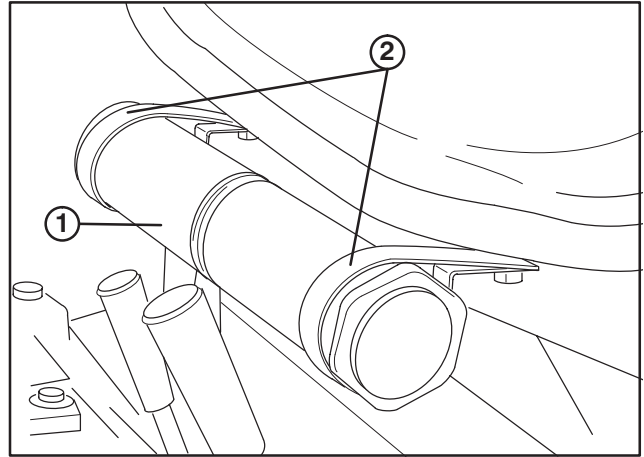

Figure 8
- Remove manual tube and R-clamps secured to seat plate. Retain (2) mounting capscrews and flatwashers.
- Loosely mount R-clamps to outer holes in right side of seat with (2) capscrews and flatwashers previously removed. (Fig. 8).